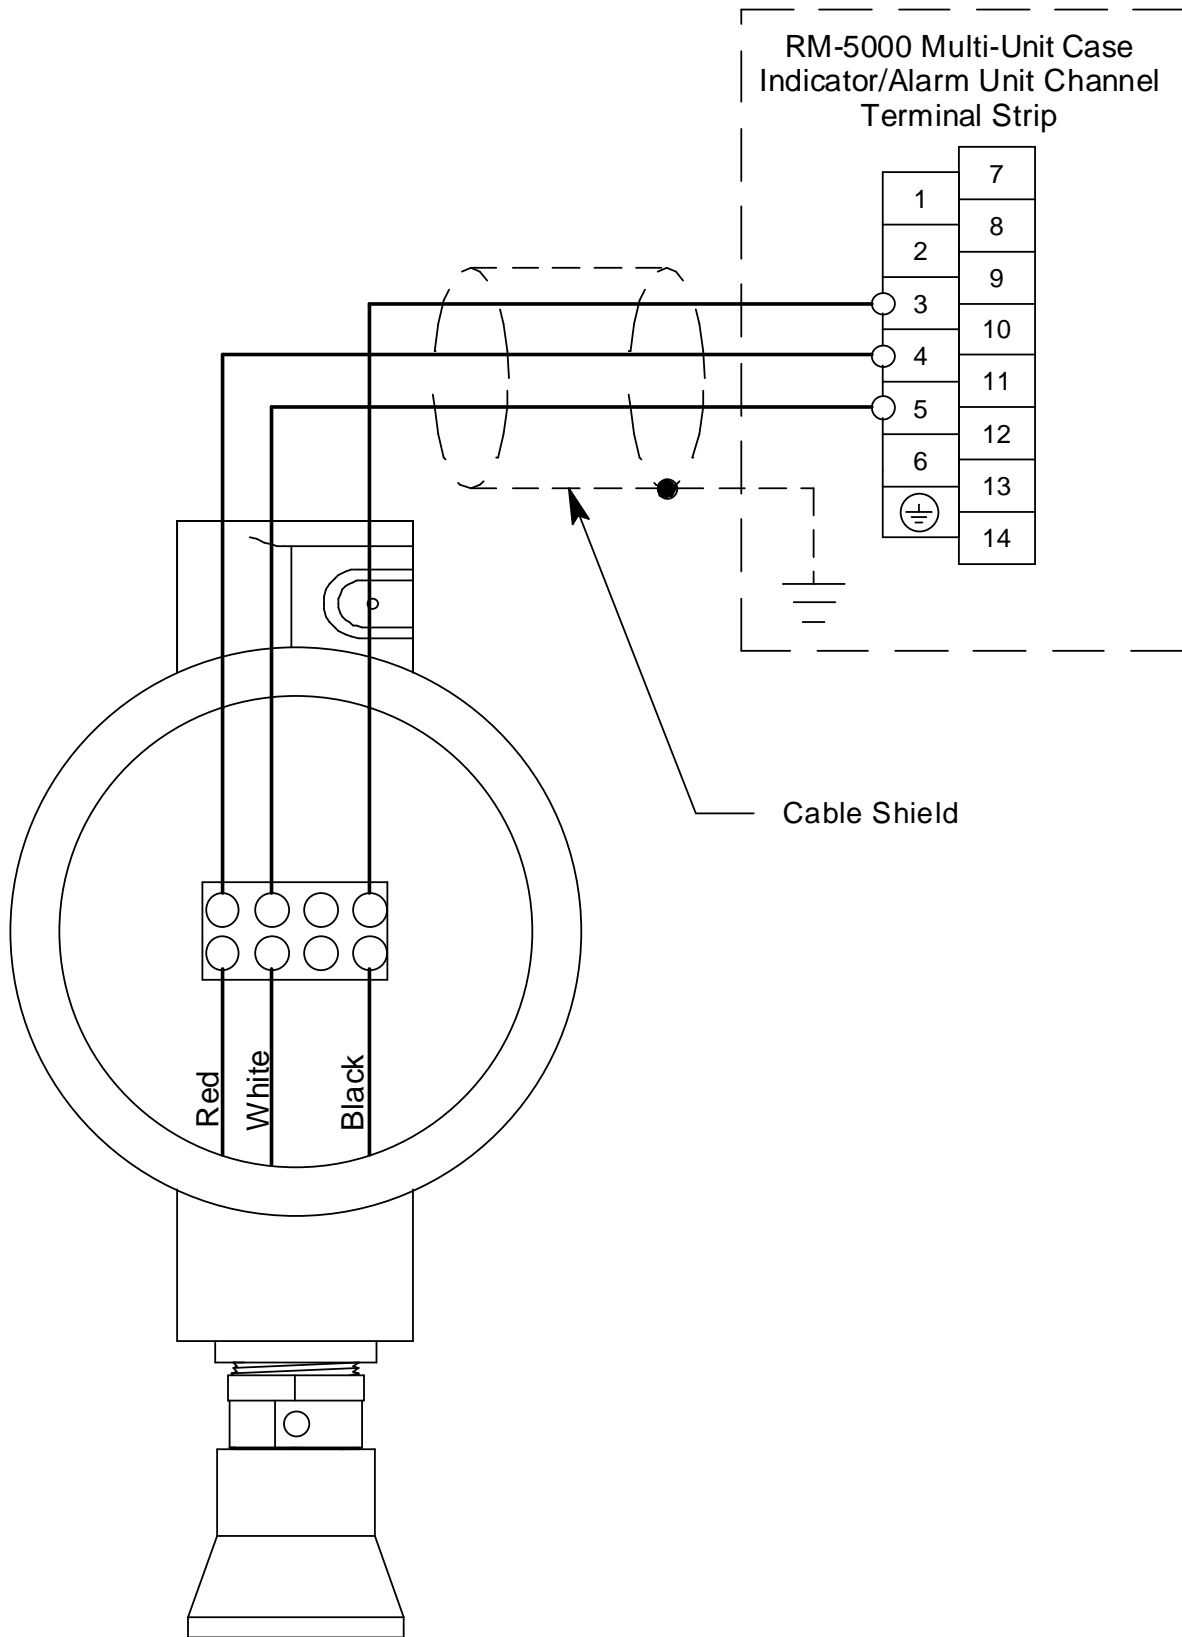
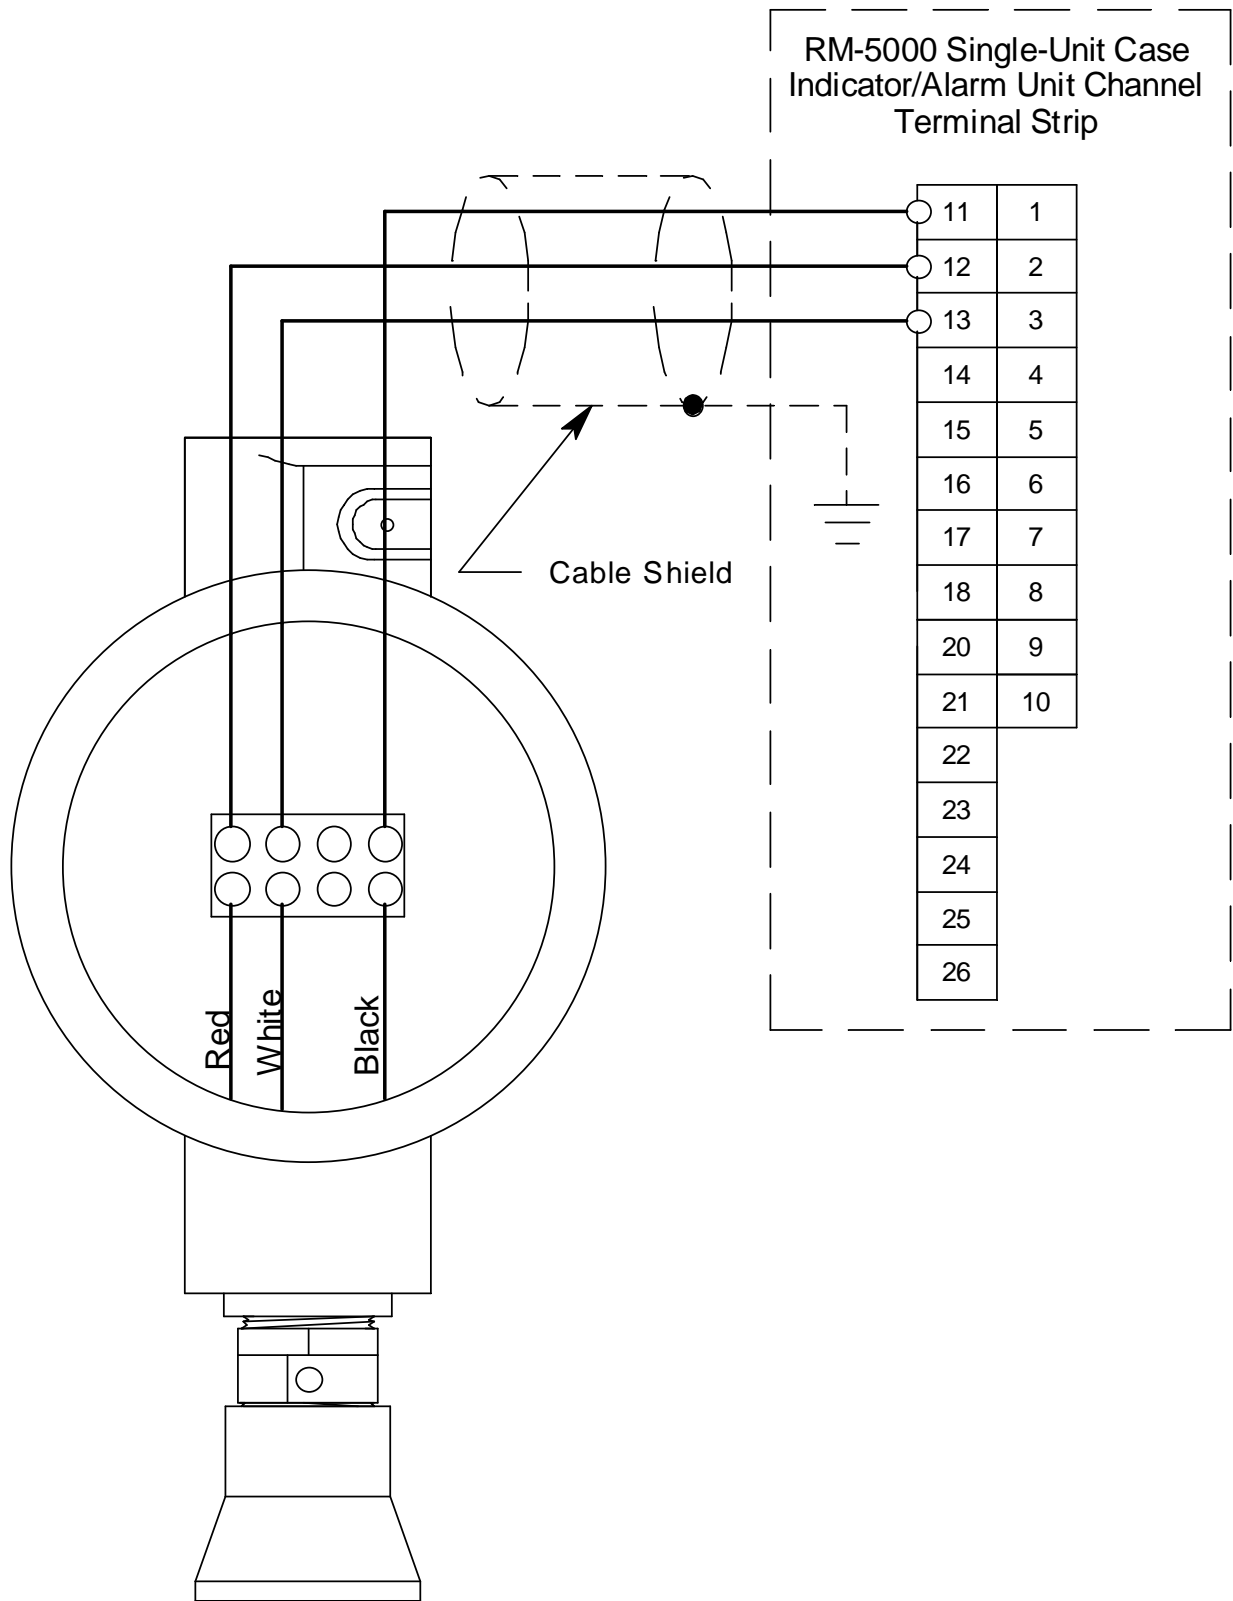

Figure 3: Wiring the Hydrogen Detector to a Multi-Case RM-5000
Figure 4: Wiring the Hydrogen Detector to a Single-Case RM-5000
4. Connect the wires to the terminal block in the junction box. See Figure 3 and Figure 4 below.
7. Connect the wires to the RM-5000 as shown in Figure 3 and Figure 4 below. Your wiring will depend on whether you have the RM-5000 installed in a single case or a multi-case.
6. Connect the detector leads to the terminal block the same way the old detector was wired (see Figure 3 and Figure 4).